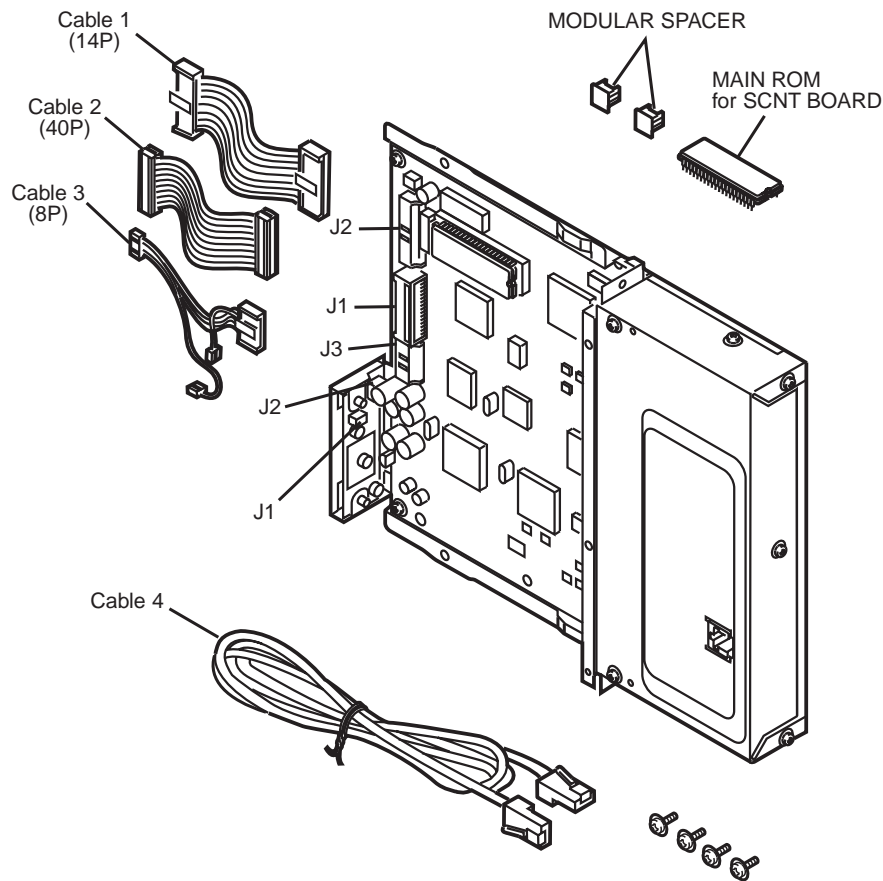

Figure 5-43 External View
- (6) Refer to Figure 5-43 and bend cables 1 and 2 as shown in order to make insertion of the kit easier.
- (7) Insert cables 1 and 2 into J2 and J1 on the G4 board ass'y.
- (8) Insert the connectors of cable 3 into J1 and J2 on the G4 relay board unit. Then Insert the other connector into J3 on the G4 board ass'y.